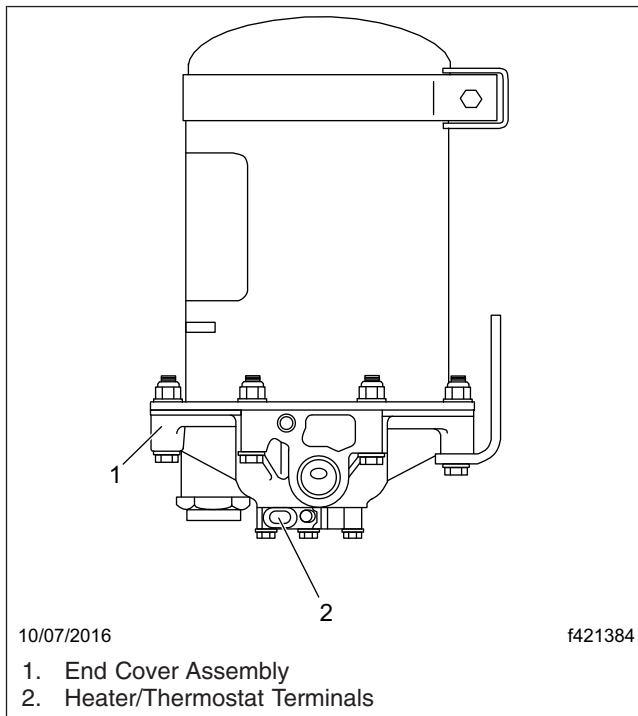

Fig. 5, End Cover Terminals Location
7. Use an ohmmeter to check resistance between the terminals on the end cover. See **Fig. 5**. The end cover contains the heater/thermostat. If the heater/thermostat is between 40° and 90°F (5° to 32°C), the heater/thermostat measured resistance will be infinite ohms. If the measured resistance is less than infinity, replace the heater/thermostat.